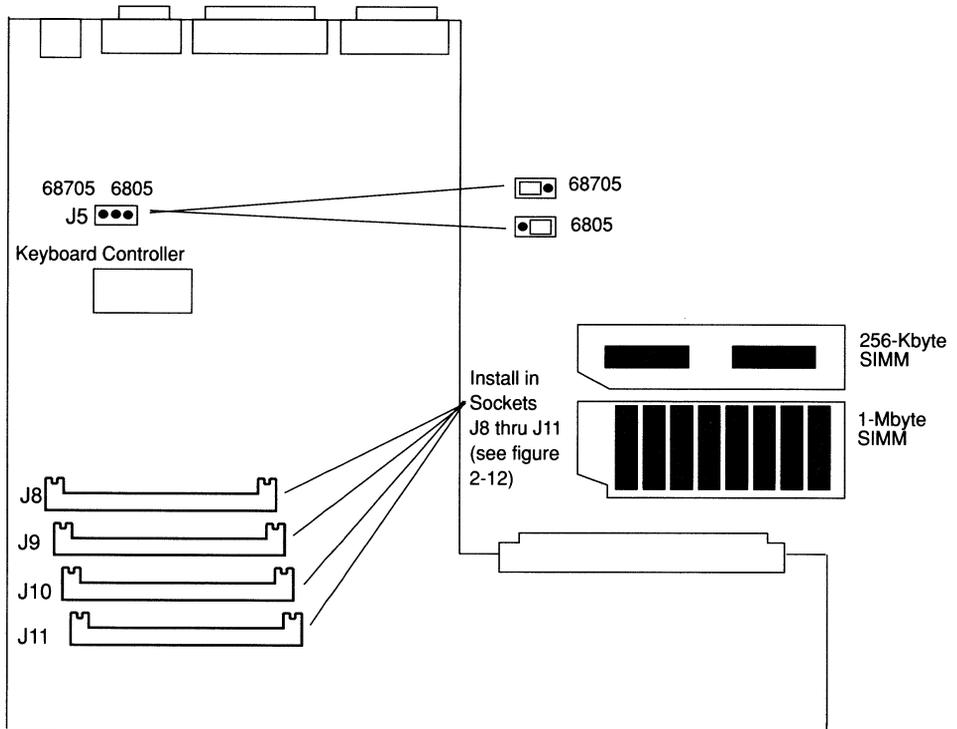

Figure 2-9. SIMM Socket Locations
The NCD16 has four slots for single in-line memory modules (SIMMs). SIMMs are installed in sets of two for 0.5-, 1.0-, 1.5-, 2.5-, 3.0-, or 4.5-Mbyte configurations. (Note that the 0.5-Mbyte configuration is not supported). Figure 2-9 shows the locations of the SIMM sockets on the main printed-circuit assembly (PCA). When 256-Kbyte and 1-Mbyte SIMMs are mixed, the 1-Mbyte SIMMs should be installed in sockets J8 and J10.
- a. Place the base unit (with its cover removed) in front of you with the main PCA oriented as shown in Figure 2-9.
- a. Place the base unit on a flat surface in front of you with the main PCA oriented as shown in Figure 2-9.
The coprocessor socket is located at U50 as shown in Figure 2-9. If a coprocessor is installed, pin 1 (as indicated by a special mark on the coprocessor) should be located as shown in Figure 2-9.